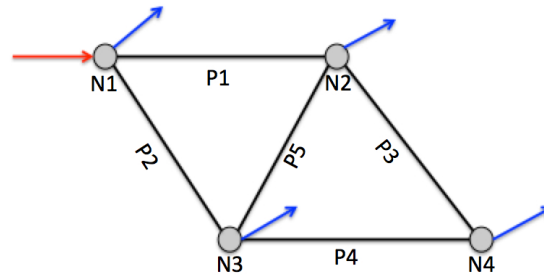

Figure 3: Layout of Simple Network
2. Figure 3 is a five-pipe network with a water supply source (a reservoir, not shown) connected at Node 1, and demands at Nodes 1-5. Table 1 is a list of the relevant pipe and node data.